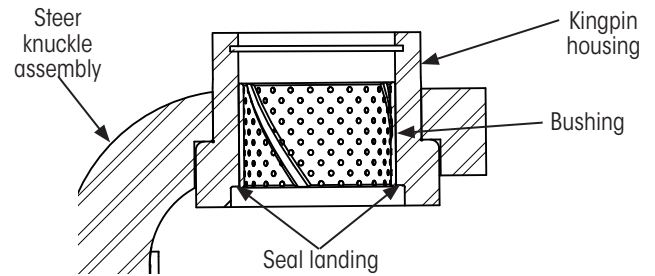

Figure 27: Bushing in kingpin housing
7. **Press** seal in place until fully seated at the seal landing in the kingpin housing (Figure 27).